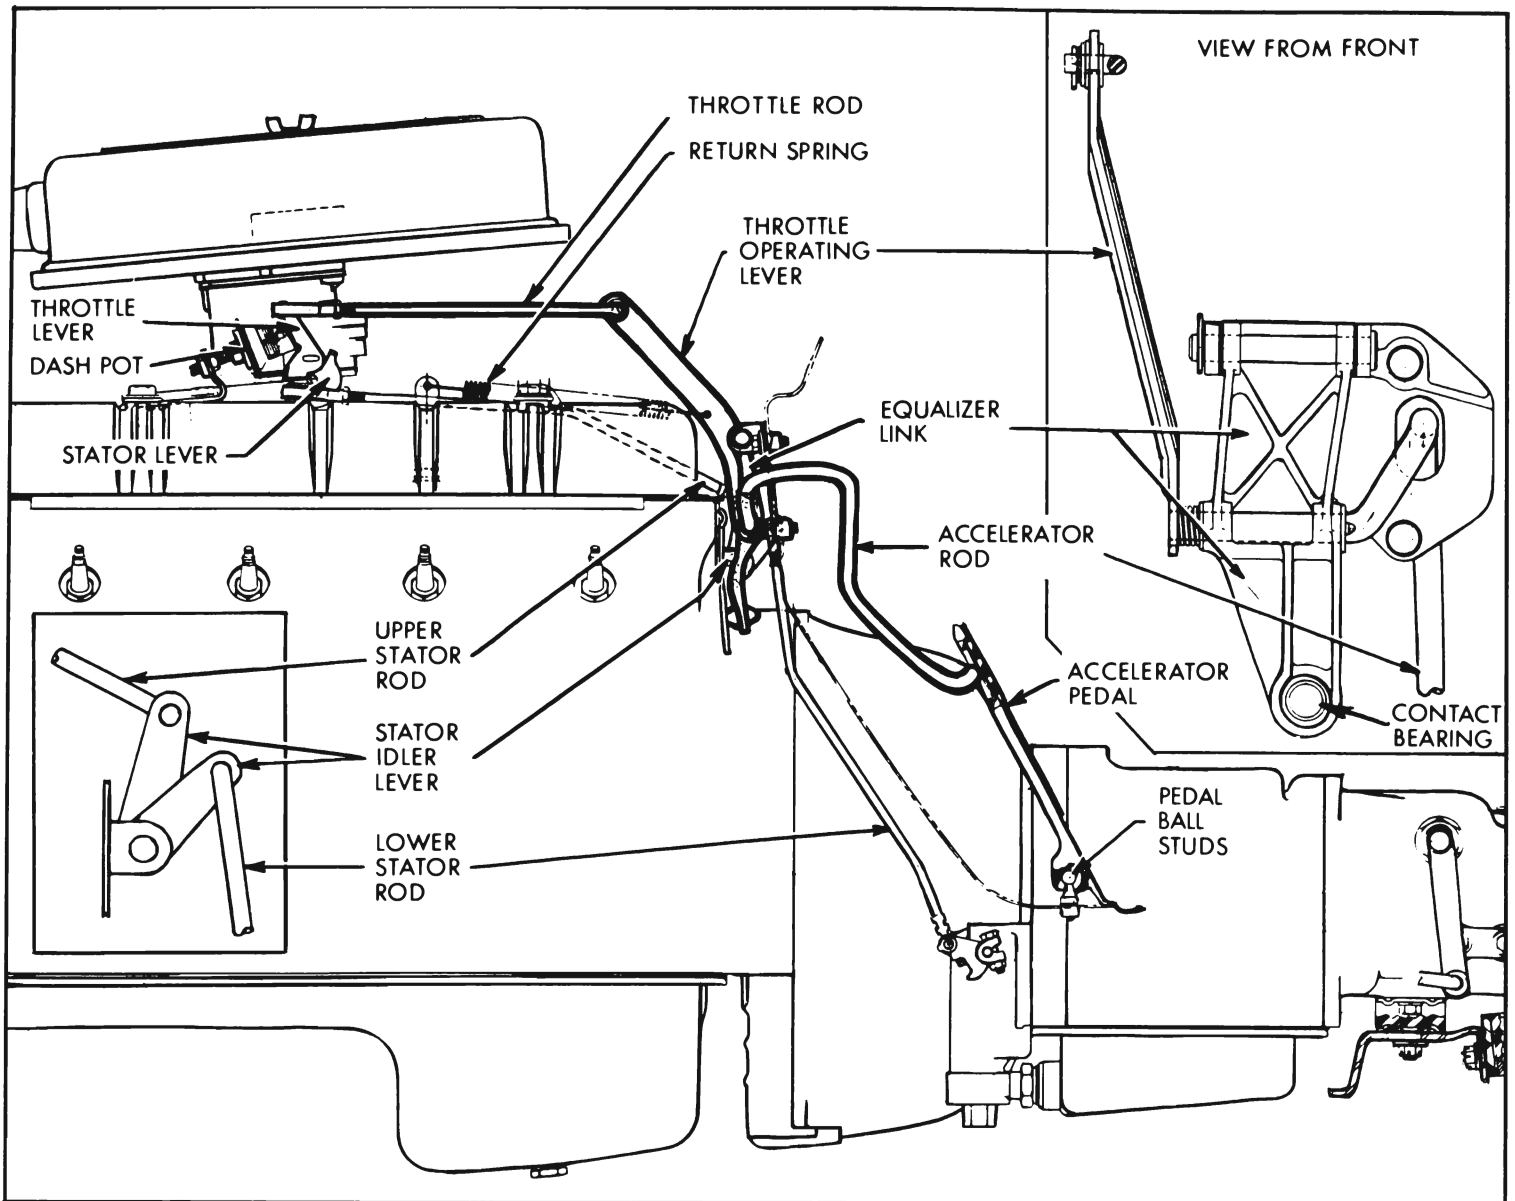

Figure 3-11—Throttle and Stator Control Linkage (Twin Turbine Transmission)
4. Disconnect throttle rod from throttle operating lever. See figure 3-11.
1. With throttle held in *wide open position*, adjust upper stator rod so that ball joint at forward end will just slip freely in stator lever on carburetor with stator rod pulled forward and stator lever held rearward against pickup. See figure 3-11.